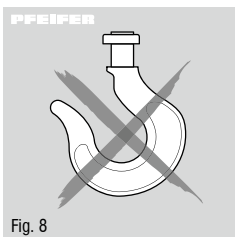

Fig. 8
- It is not permitted to remove the safety shackle from the load or supporting hooks (Fig. 8).